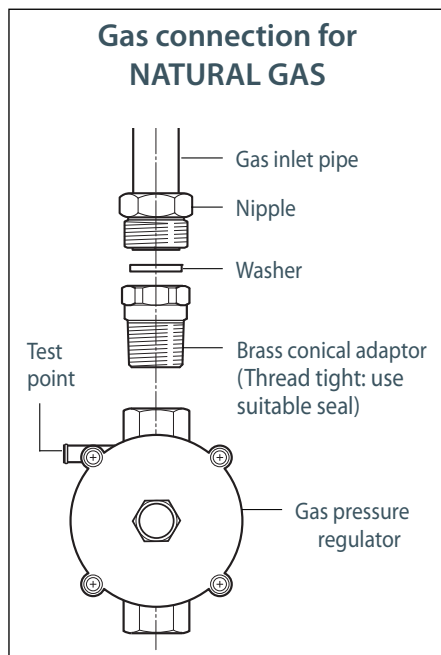

Fig. 12 Natural gas connection
- For Natural gas, connect the gas supply to the gas pressure regulator which is supplied with the appliance (Fig.12). Adjust the regulator to obtain a test point pressure of 1 kPa with the two semi-rapid burners operating at the maximum.